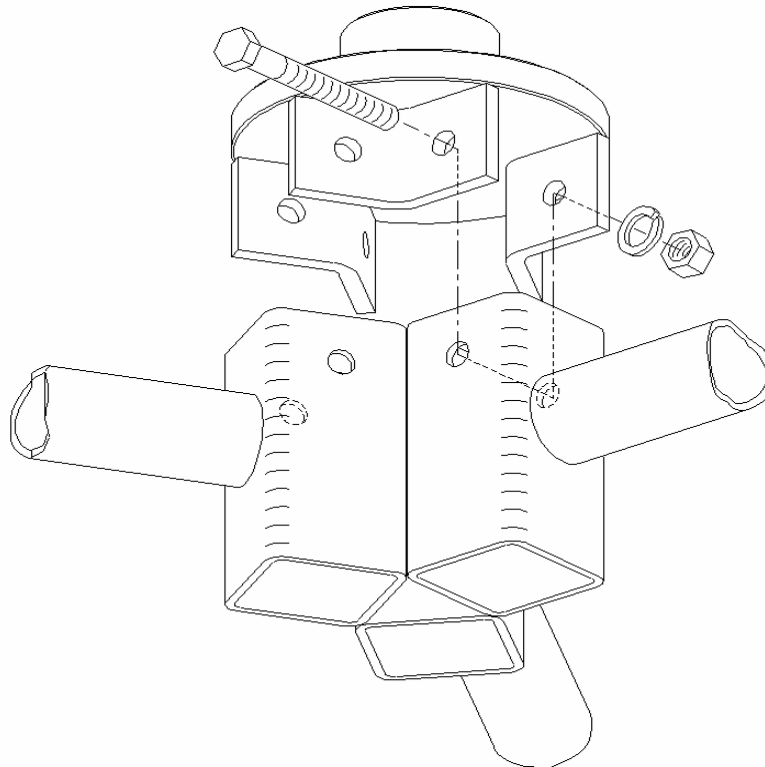

Figure 11
3. Attach upper flange to other end of rotor assembly using the same type hardware; three screws; 3/8" -16 X 3", three lock washers, and three nuts. See Figure 11.